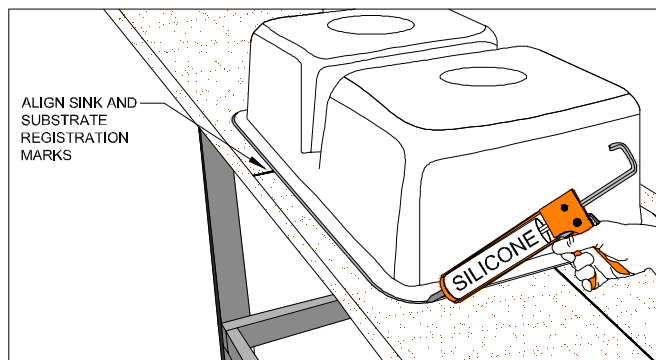

Figure 7C
- Fill gap between sink rim and substrate with 100% silicone. (FIG. 7C)